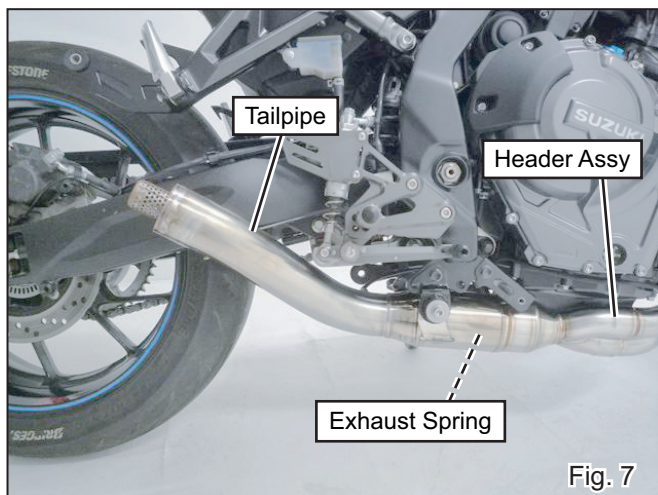

Fig. 7
- 6) Install Tailpipe to Header Assy and fix it with Exhaust Spring (See Fig. 7).